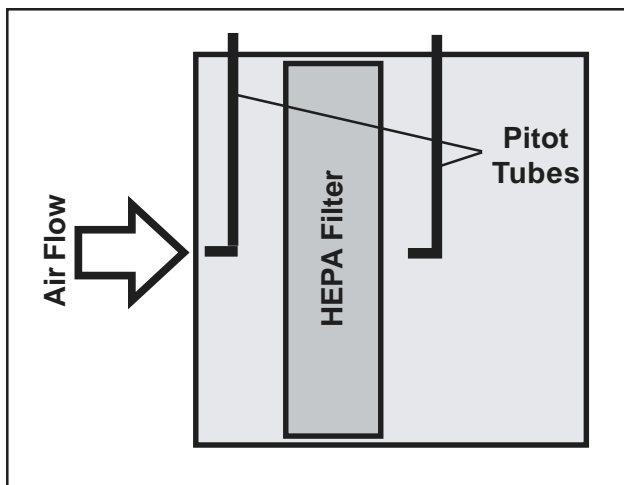

Figure 102. Orientation of Pitot Tubes in Blower Box
1. Carefully insert the new pitot tube into the blower box, making sure it points in the correct direction (Figure 102). The pitot tube must always point directly upstream to function properly.